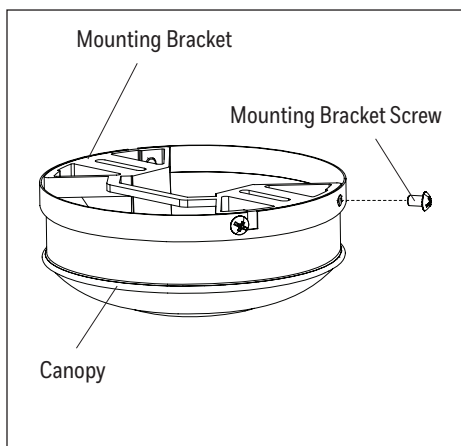

Figure 2.1
1. Loosen all four mounting bracket screws and completely remove the two screws from the round holes in the canopy. Save the screws for later. Remove the canopy from the mounting bracket. **WARNING:** To reduce the risk of fire, electric shock, or personal injury, mount to the outlet box marked "acceptable for fan support" and use the mounting screws and washers provided with the outlet box (Figure 2.1).